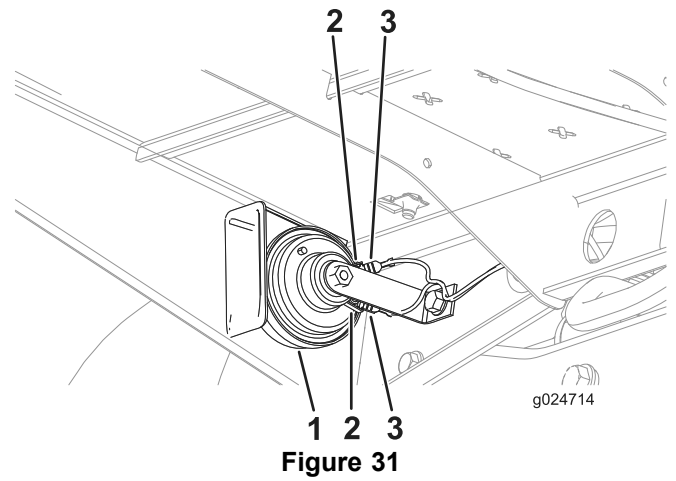

Figure 31
2. Connect the wire-harness leg with the 2 terminals to the 2 terminals on the horn (Figure 31).